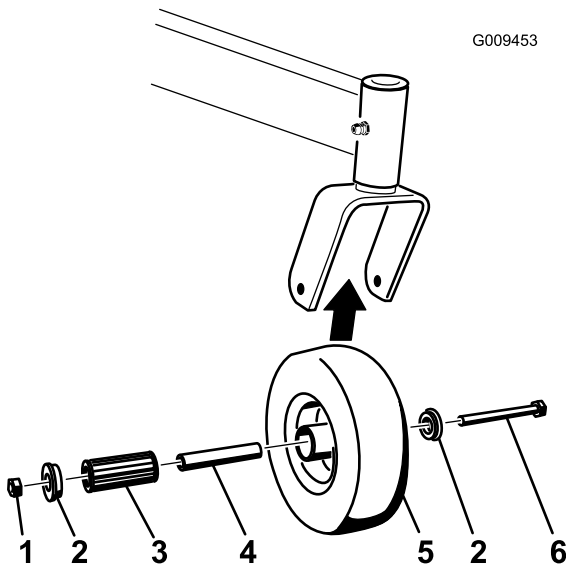

Figure 61
1. Remove the locknut and wheel bolt holding the caster wheel to the caster fork (Figure 61).
- Remove one bushing, then pull the spanner bushing and roller bearing out of the wheel hub (Figure 61).
- Remove the other bushing from the wheel hub and clean any grease and dirt from the wheel hub (Figure 61).
- Inspect the roller bearing, bushings, spanner bushing and inside of the wheel hub for wear. Replace any defective or worn parts (Figure 61).
- To assemble, place one bushing into the wheel hub. Grease the roller bearing and spanner bushing and slide them into the wheel hub. Place the second bushing into the wheel hub (Figure 61).
- Install the caster wheel into the caster fork and secure with the wheel bolt and locknut. Tighten the locknut until the spanner bushing bottoms against the inside of the caster forks (Figure 61).